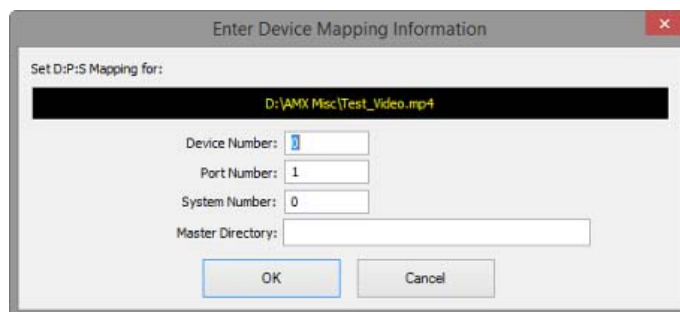

FIG. 142 NetLinx Studio 4 - Enter Device Mapping Information dialog
3. Click **Add** to select the video file you want to use: Select the video file in the *Open* dialog and click **OK** to invoke the *Enter Device Mapping Information* dialog (FIG. 142):